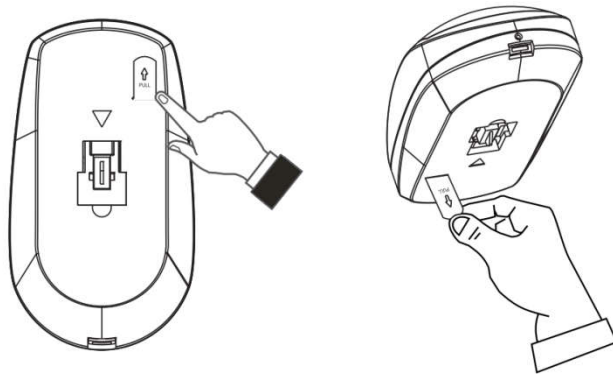

Figure1
- 1、 Pull out the insulating strip, making the device power on. (Figure 1)